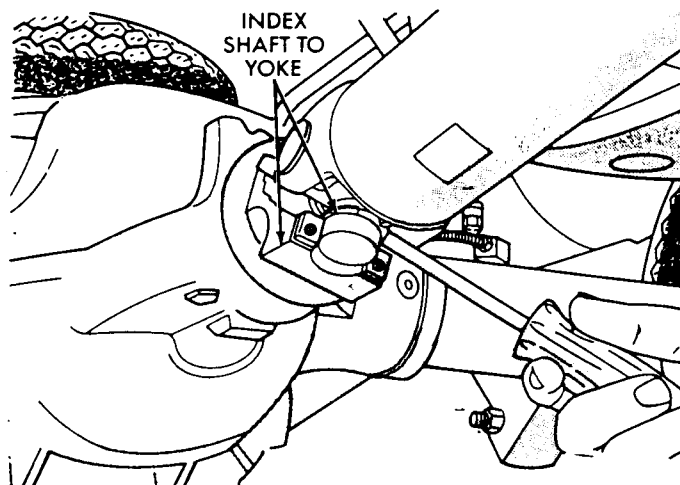

Fig. 1—Index Propeller Shaft
(6) Rotate torque converter so mark on torque converter (made during removal) will align with mark on drive plate. The offset holes in plate are located next to 1/8 inch hole in the inner circle of plate. Carefully work transmission assembly forward over engine block dowels with torque converter hub entering the crankshaft opening.
(7) After transmission is in position, install torque converter housing bolts and tighten to 30 ft. lbs. (41 N·m).
(8) Install crossmember to frame and lower transmission to install mount on extension to the crossmember. Tighten all bolts.
(9) Remove engine support fixture (Fig. 1).
(10) Install oil filler tube and speedometer cable.
(11) Connect throttle rod to transmission lever.
(12) Connect gearshift rod and torque shaft assembly to transmission lever and frame.
(1) To start the overdrive removal, remove transmission oil pan, remove gasket, drain oil and, using a new gasket, reinstall pan. If there is a failure within the overdrive unit or if the fluid is contaminated, remove the entire transmission. If diagnosis indicates clutch or governor problems only, remove overdrive unit.
(2) Index propeller shaft universal joint to pinion yoke for proper orientation during reassembly. Remove propeller shaft (Fig. 1).